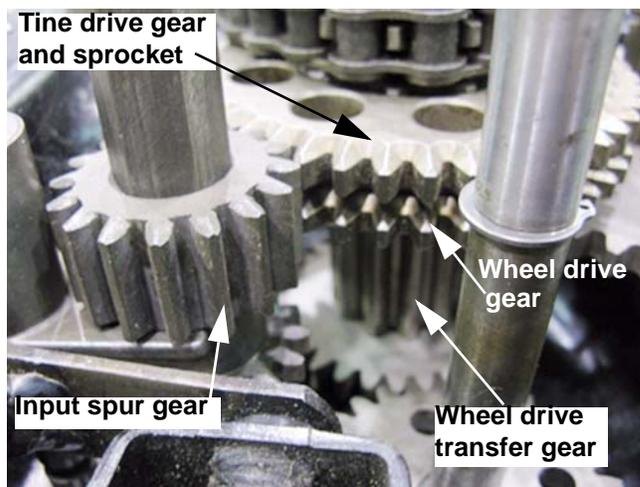

Figure 5.7
2. In this position, the upper set of teeth on the input spur gear will engage the paired wheel and tine drive gears on the main shaft, turning them in the opposite direction of the input spur gear. The paired gears will turn **C**ounter **C**lock **W**ise. See Figure 5.7.